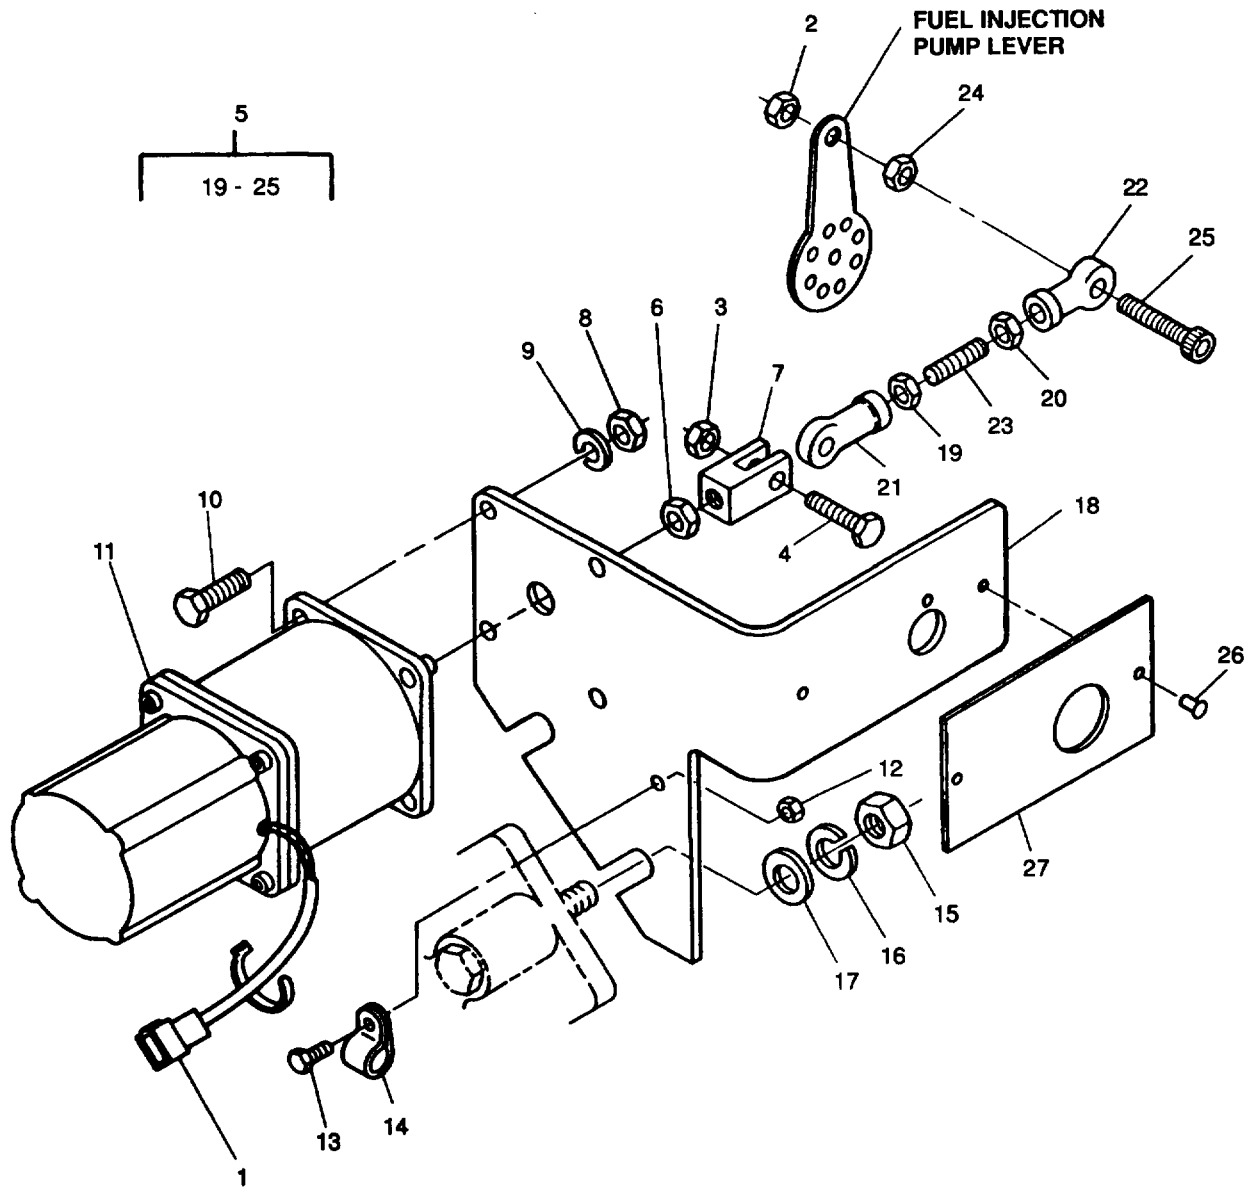
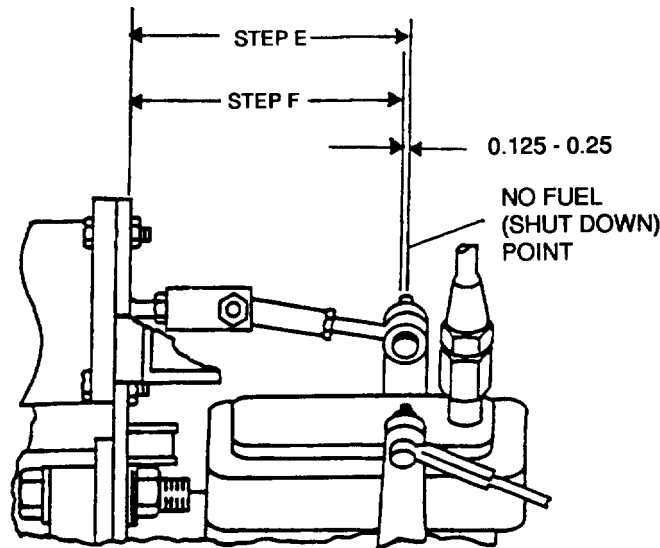

FIGURE 4-8. Governor Actuator Assembly
FIGURE 4-9. Governor Actuator Adjustment
- c. Open left side engine access doors and disconnect connector (1, FIGURE 4-8) from engine electrical harness.
- d. Connect 5 ohm, 25 watt resistor in series with pin 2 of connector (1) and ground.
- e. Connect jumper wire from pin 1 of connector (1) to battery positive terminal (24 VDC).
- f. Connect negative battery cable. Governor actuator (11) shaft should extend to full fuel position.
- i. Remove resistor and jumper wire from connector (1), ground, and battery.
- j. Connect connector (1) to engine electrical harness and close left side engine access doors.
- d. Tag and disconnect connector (1, FIGURE 4-8) from electrical harness.
- e. Remove nuts (2) and (3), bolt (4), and rod assembly (5) from fuel injection pump lever and devis (7).
- a. If disassembled, screw rod ends (21 and 22, FIGURE 4-8) onto rod (23) the same number of turns noted on disassembly, and tighten nuts (19) and (20) finger tight only.
- b. If removed, install bolt (25) and nut (24) into rod end (22).
- c. If removed, install identification plate (27) on bracket (18) with pop rivets (26).
- d. Install mounting bracket (18) on front cover mounting bolts with washers (17), lockwashers (16), and nuts (15).
- e. Secure electrical wiring to mounting bracket (18) with damp (14), bolt (13), and nut (12).
- f. Install governor actuator (11) on mounting bracket (18) with bolts (10), lockwashers (9), and nuts (8).
- g. Screw devis (7) on governor actuator shaft the same number of turns noted on disassembly, and tighten nut (6) finger tight only.
- h. Install rod assembly (5) on injection pump lever and clevis (7) with bolt (4) and nuts (2) and (3).
- j. Connect connector (1) to engine harness and remove tag.
- a. Tag and disconnect connector (1, FIGURE 4-8) from engine harness.
- b. Remove nut (2) and disconnect rod assembly (5).
- f. Mark position of fuel injection pump lever on engine block at exact no fuel (shut down) point. Measure injection pump lever center line position to mounting surface of actuator. Refer to FIGURE 4-9.
- g. Adjust rod assembly (5) and devis (7) as necessary so that center line of fuel injection pump lever when connected and measured as in step f., will be positioned past the no fuel point by 0.125 to 0.25 inch (3.17 to 6.35 mm). Tighten nuts (6), (19), and (20).
- h. Install rod assembly (5) on fuel injection pump lever with nut (2).
- i. Connect connector (1) to engine harness.